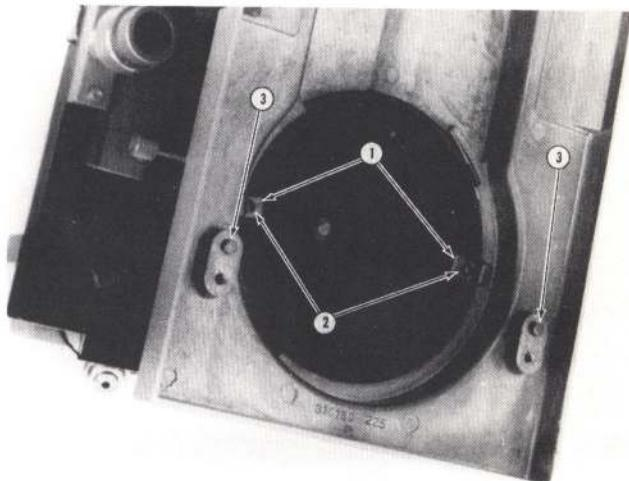

FIG. 7-11 - HIGH INTENSITY BASE ILLUMINATOR
1. Install upper cover of illuminator in microscope base. It is secured with two screws and clips (Fig. 7-11).
4. The Microscope Base has two dowel pins (Fig. 7-11) to ensure alignment. Locate illuminator on pins and fasten in place with three screws using hex wrench (9/64 across flats).